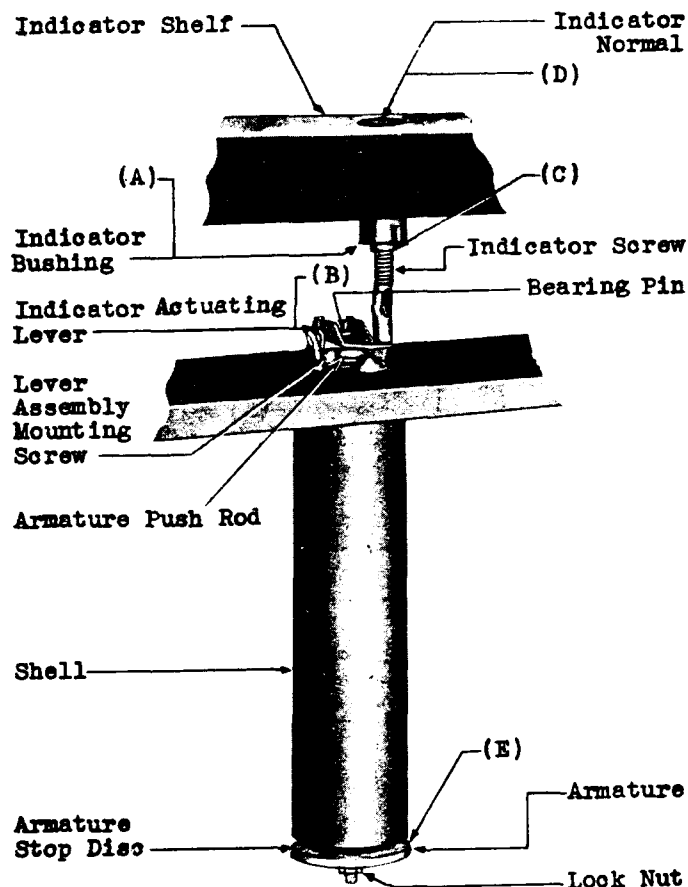

Fig. 1 - General View of Signal and Indicator in Normal Position
2.02 Freedom of Indicator Movement - Fig. 1 (A) - The indicator shall move freely in the indicator bushing. Gauge by feel.
2.03 Freedom of Movement of Indicator Actuating Lever - Fig. 1 (B) - The indicator actuating lever shall move freely on its bear-
*2.04 Tightness of Indicator Parts - Fig. 1 (C) - The indicator screw shall be sufficiently tight in the indicator to hold any adjusted position. Gauge by feel.
(a) Fig. 1 (D) With the associated signal in the normal position, and with the indicator shelf screwed tightly in place the top of the indicator shall be approximately ($\pm .005$ ") flush with the face of the indicator shelf. Gauge by eye and by feel.
*2.08 Armature Travel - Fig. 1 (E) - The armature travel shall be Minimum .038", Maximum .042". Use the No. 66D gauge.